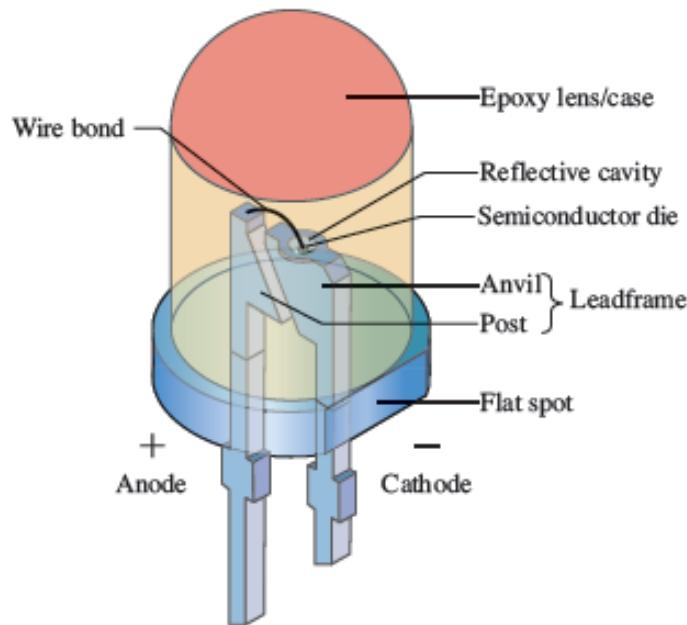

Figure-7 Parts of an LED
- Figure-7 shows the parts of a standard low-power LED. Just as in an ordinary diode, the LED has an anode and a cathode that must be properly biased.